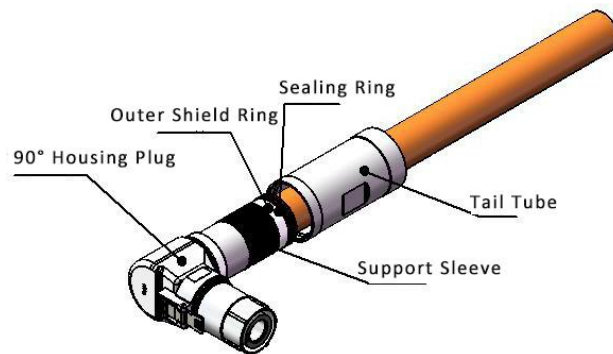

Fig. 15
4.2.3. The supporting sleeve is assembled in place, and then the shielding layer is wrapped on the supporting sleeve, and then the shielding ring and sealing ring are assembled in place, as shown in Figure 15